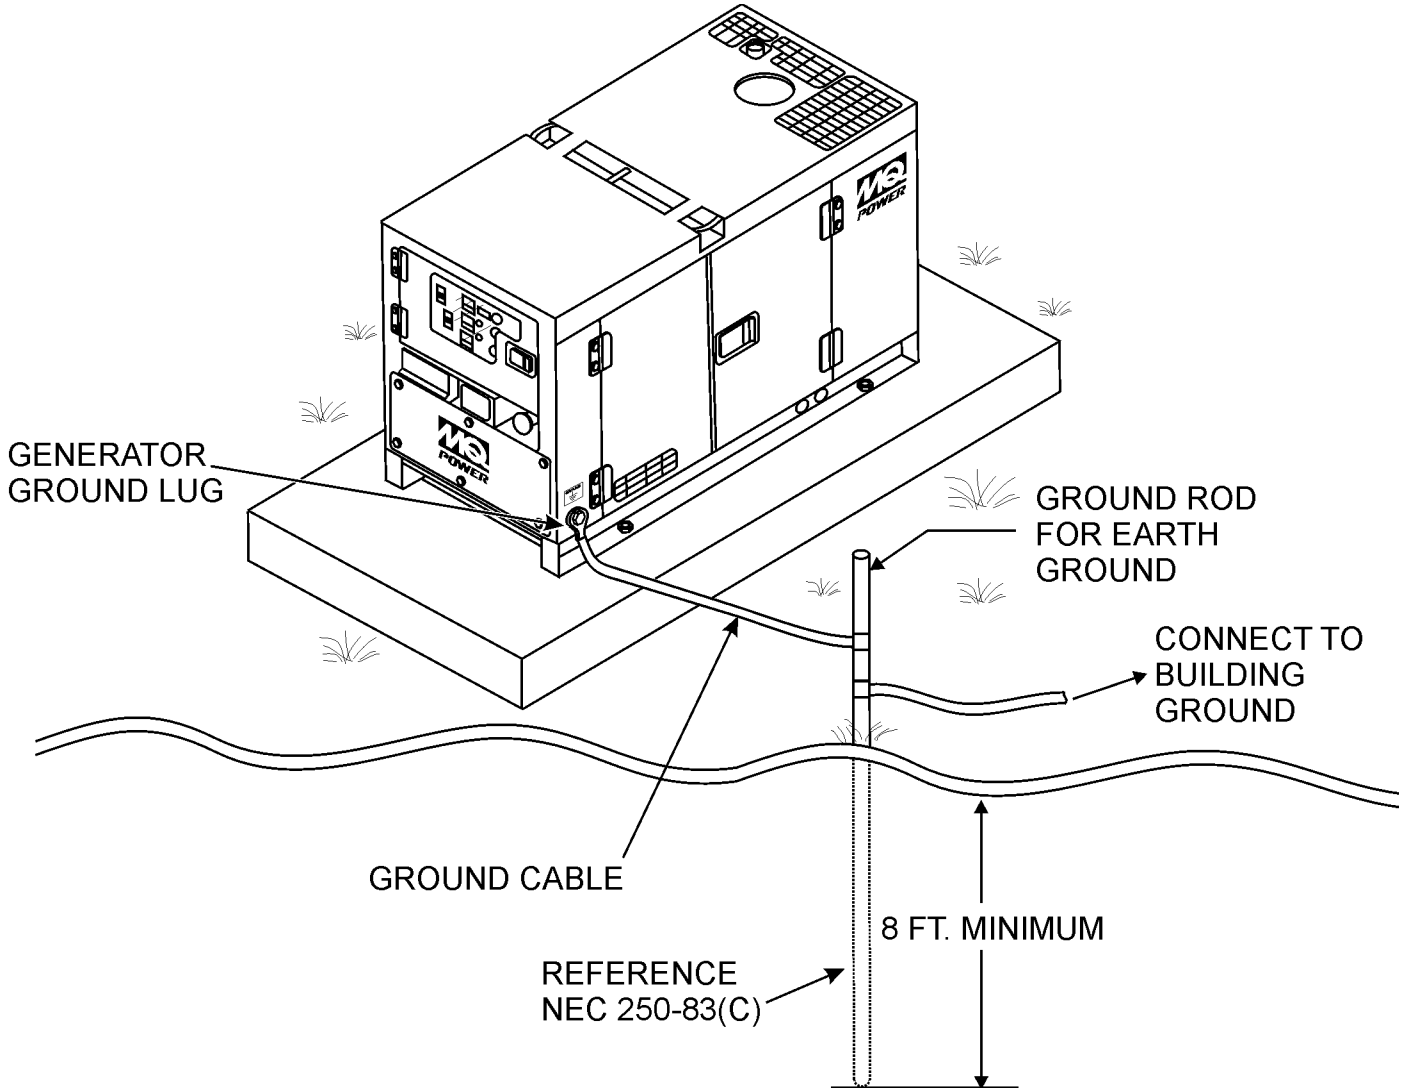

Figure 2. Typical Generator Grounding Application
2. When grounding the generator ( Figure 2) connect the ground cable between the lock washer and the nut on the generator and tighten the nut fully. Connect the other end of the ground cable to earth ground.
3. NEC article 250-52 (5) specifies that the earth ground rod should be buried a minimum of 8 ft. into the ground.